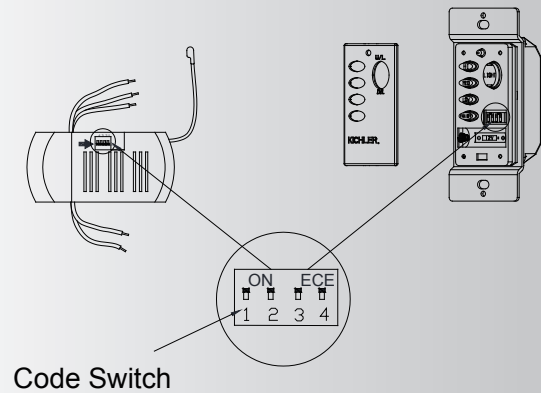

Fig. 27
Step 3. You can leave the frequency switches at the factory setting. Or you have to change the dip switch setting in the remote if you are using more than one fan in the same area and want to control them separately. Remove the battery and change the dip switch setting, assuring that they are different from the other fans. Reinstall the battery and switch plate on the control. (Fig. 27)